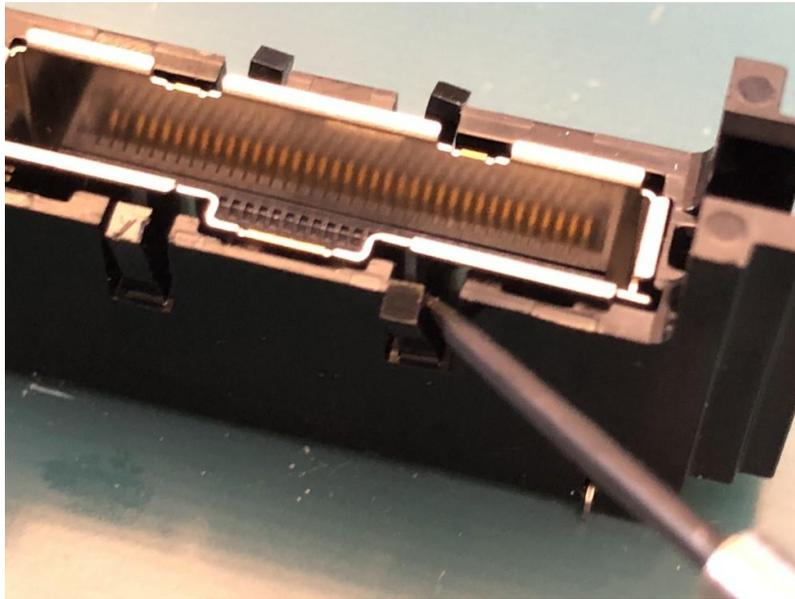

Figure 5
- Ensure that all the 4 plastic sleeve hooks are wedged and deformed from the connector flange, seen in Figure 5.